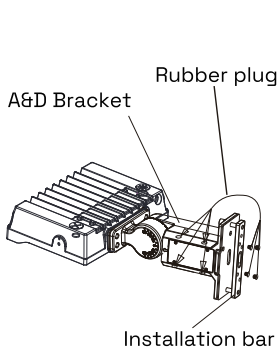

Fig 4.3
Step 1: Remove the four bolts from A&D bracket, remove the four rubber plugs from installation bar, put the four rubber plugs on the place where the four bolts were previously placed on the bracket for waterproof purpose. Figure 4.3
Notice : Adjustable angle is 0-90°. Figure 4.3